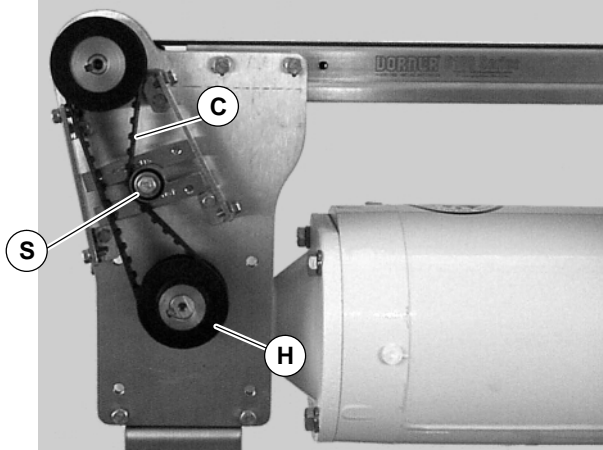

Figure 21
- Loosen tensioner (S of Figure 21).
**NOTE:** If drive pulley (H of Figure 21) is replaced, wrap timing belt around drive pulley and complete step 3.